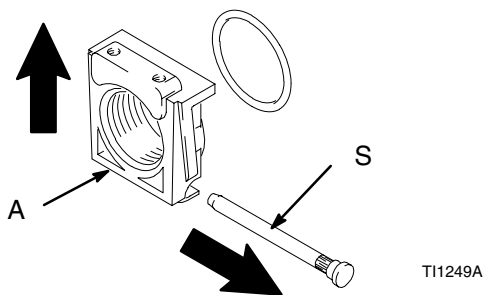

Fig. 1
To open the pipe port insert (A), remove the insert pin (S) and pull insert up in direction away from pin hole. Install new insert and reinsert pin. Fig.1.